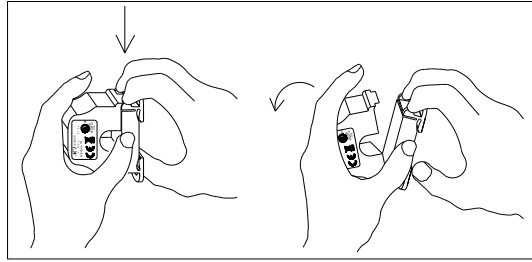
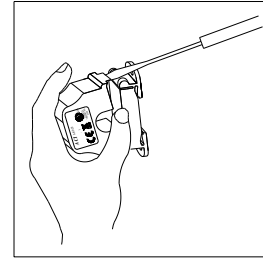

Figure 3: Opening Sensor by Hand
Figure 4: Opening w/ Screwdriver
Pressing down on the two (2) side tabs and swinging the cover open opens the split core current switch as shown in **Figure 3** below. Lifting up on the latch with a flat-tip screwdriver as shown in **Figure 4** below can also open the unit. Press down firmly on the cover to close the current switch. An audible “click” will be heard as the tab slides over the tongue on the base.
Current Switch is operating at a low-level current or failing to operate within the accuracy specifications.	Visually check the mating parts of the core to ensure there is no debris between the split contacts. Remove all debris or dust manually and close the current sensor. Continue to retest the sensor in your application. See Figure 3 on Page 1.